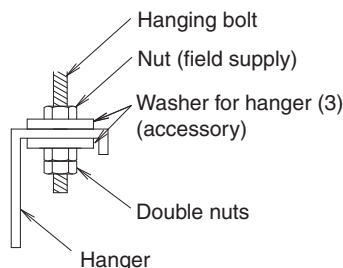

Fig. 10
#### (1) Fix the hanger to the hanging bolt. (Refer to Fig. 10)